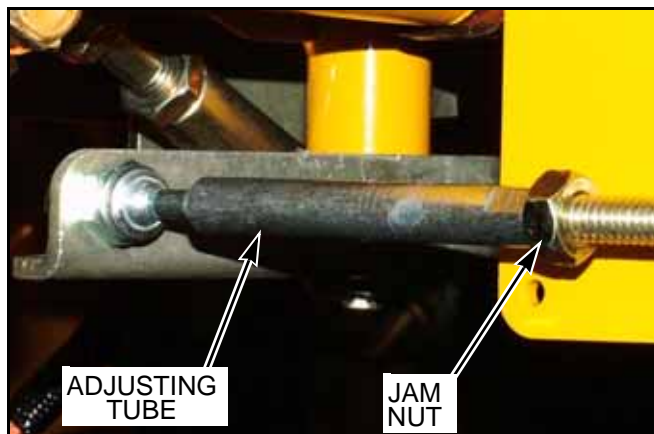

FIG. 23
7. Loosen the jam nut on the brake rod and rotate the adjusting tube (FIG. 23) until the dimensions shown in Fig. 9-18 can be attained. Re-tighten the locknut.